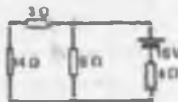

Figure 13.48
- 1 Use Thévenin's theorem to find the current flowing in the 14Ω resistor of the network shown in Fig. 13.48. Find also the power dissipated in the 14Ω resistor.